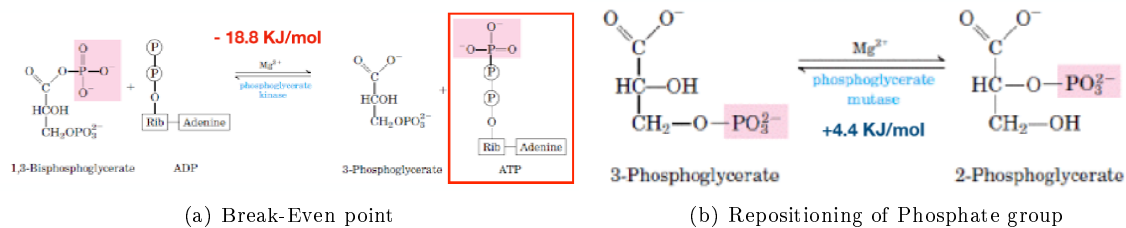

Figure 8: Step7 and Step8
Step7 is the **break-even point**. 1, 3-BPG is used as a phosphate donor to ADP. This reaction is catalyzed by **glycerophosphate kinase** and produces 3-Phosphoglycerate and ATP. (see fig. 8(a))